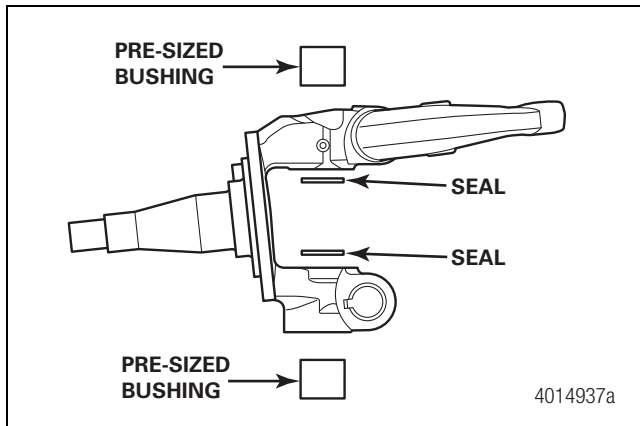
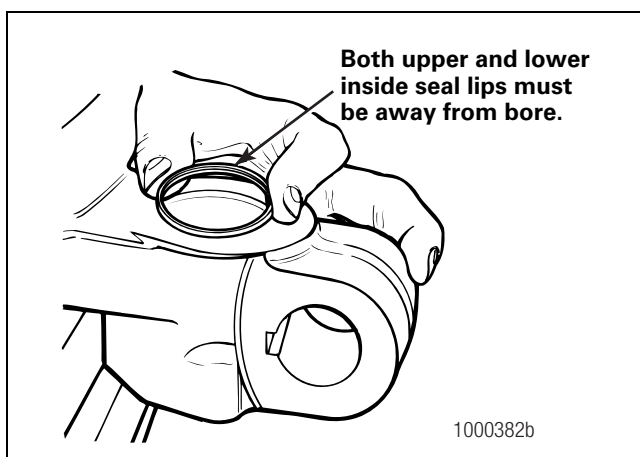

Figure 2
Figure 3
- Using an appropriate driver, install the new pre-sized bronze bushings in from the top and bottom of the knuckle. Figure 2. Continue installation until the bushing is below the top of the bore. If the knuckle has a threaded cap, continue installation until the bushing is just below the threads.
- Install the upper and lower grease seals so that the seal lip “V”'s all open away from the bores. Seals must be even with the machined surface of the knuckle bores. Figure 3 and Figure 2.